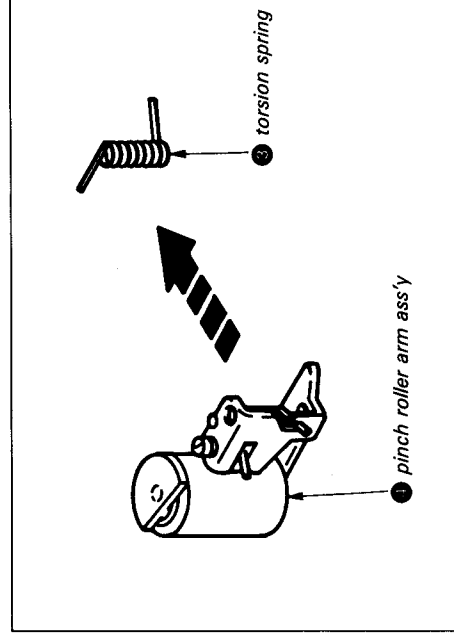

Fig. 7-18.
- 6) Remove torsion spring ③. (See Fig. 7-18.)